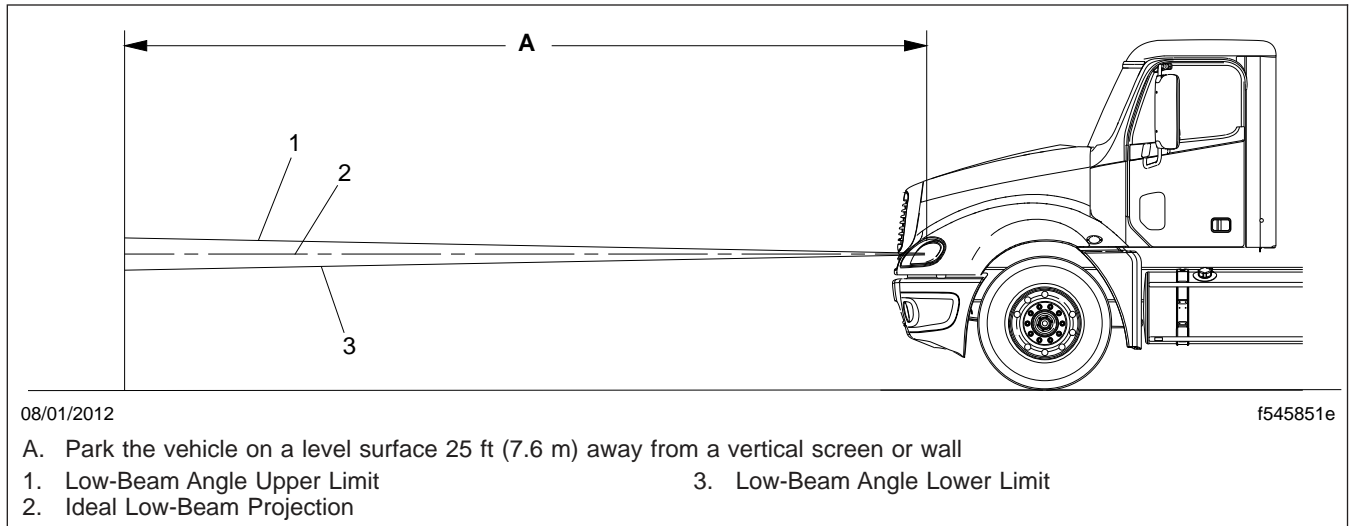

Fig. 14.2, Vertical Low-Beam Headlight Variation Limits
5. Identify the center of each beam projection by marking the area of brightest intensity on the wall. The area of brightest intensity should fall on or very near the marks made during step 3. See Fig. 14.2.